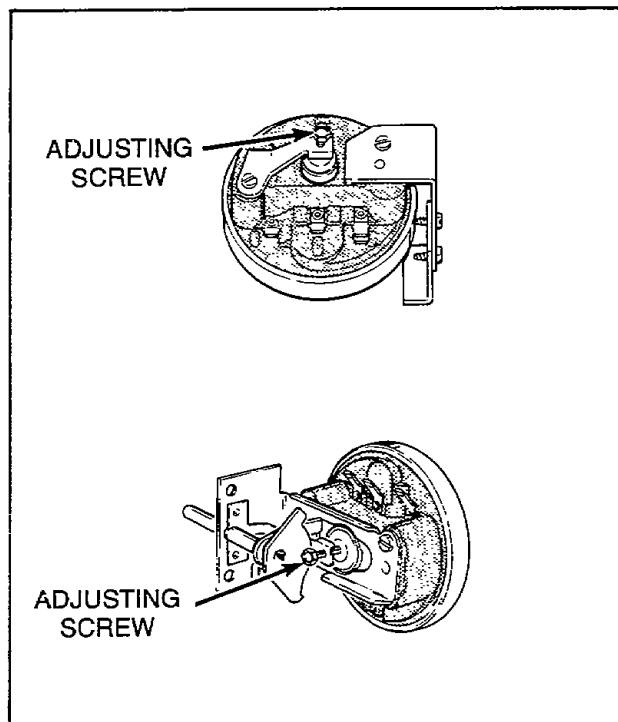

Figure 31
30. PRESSURE SWITCH (Refer to Figure 31)